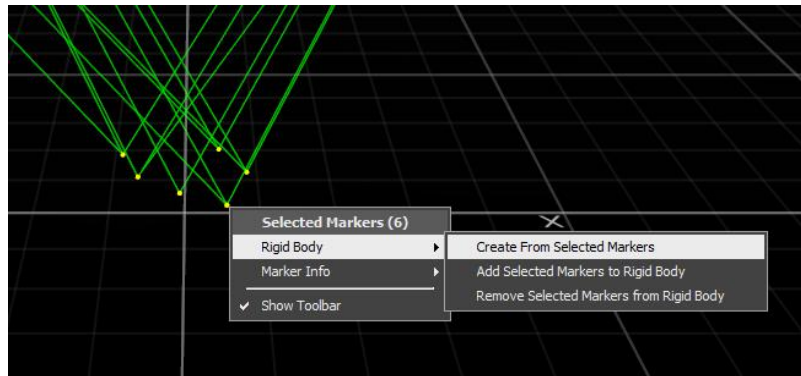

Figure 4. Creating rigid body from selected markers
3. Drag and select all the markers in the **Perspective View** window, right-click, and select **Rigid Body > Create From Selected Markers**. (Figure 4)